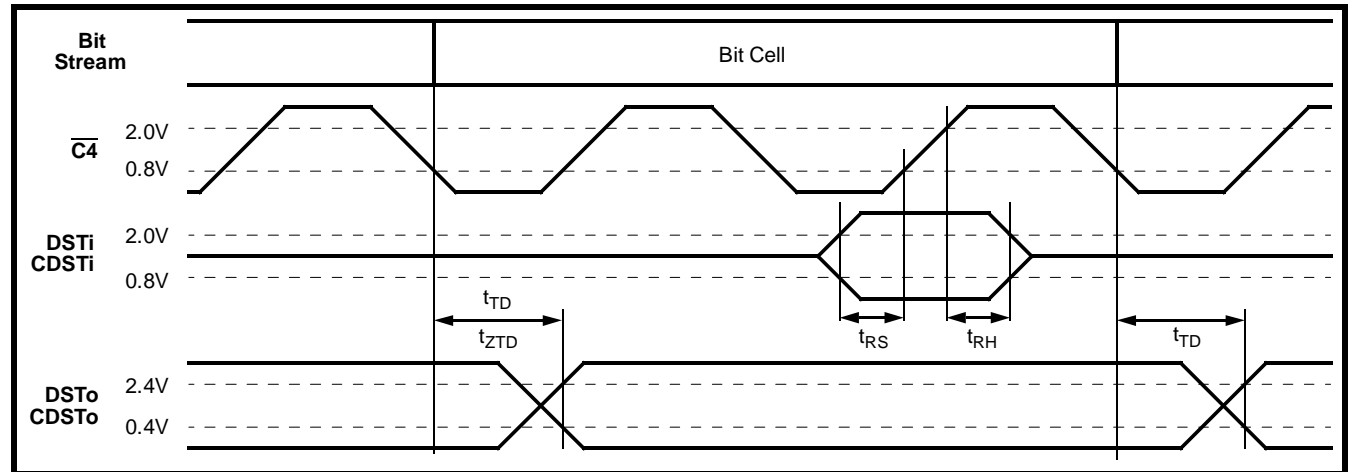

Figure 19 - Data Timing For DN Mode
**AC Electrical Characteristics† - Data Timing - DN Mode (Figure 19)**